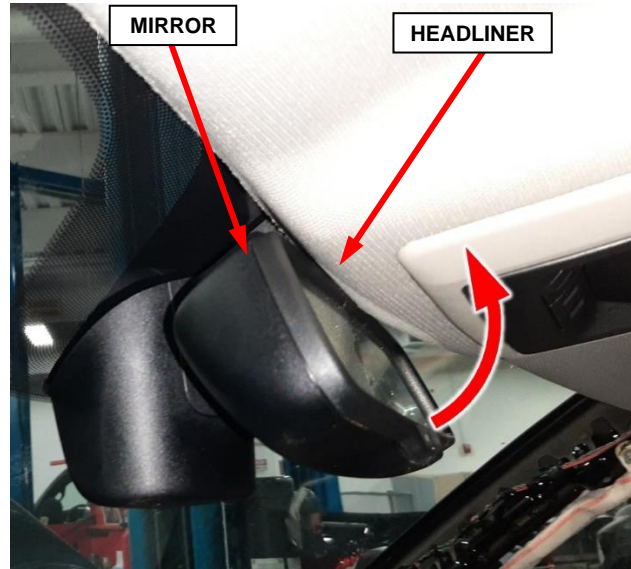

Figure 34 – Headliner Harness
23. Tilt the rear view mirror up to allow clearance for lowering the headliner (Figure 34).
43. Tilt the rear view mirror down to support the headliner (Figure 34).